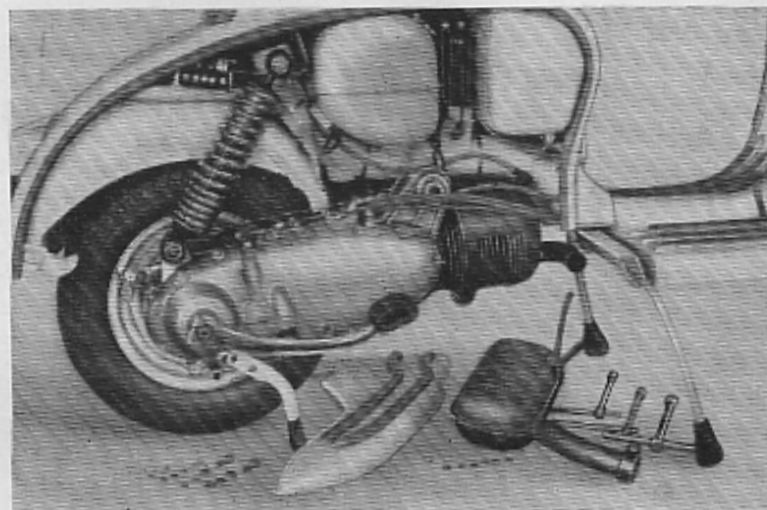

Fig. 1
- 3 Remove the silencer by unscrewing the three nuts fixing it to the crankcase cover (10mm spanner) and unscrew exhaust tube ring screw (14mm spanner). See Fig. 1.